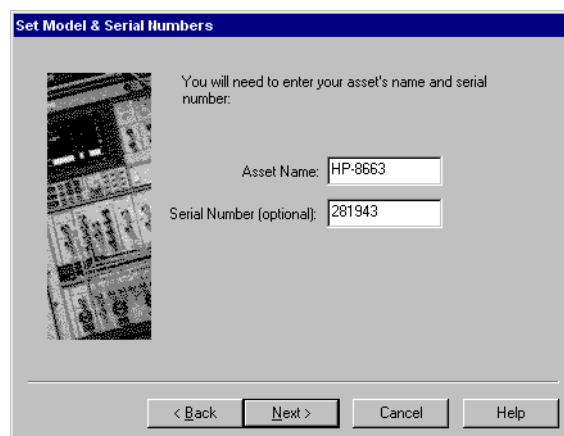

Figure 5-6 Choose Asset and Serial Number
- 11** In the **Set Model & Serial Numbers** dialog box, type in your source asset name and its corresponding serial number. See Figure 5-6.